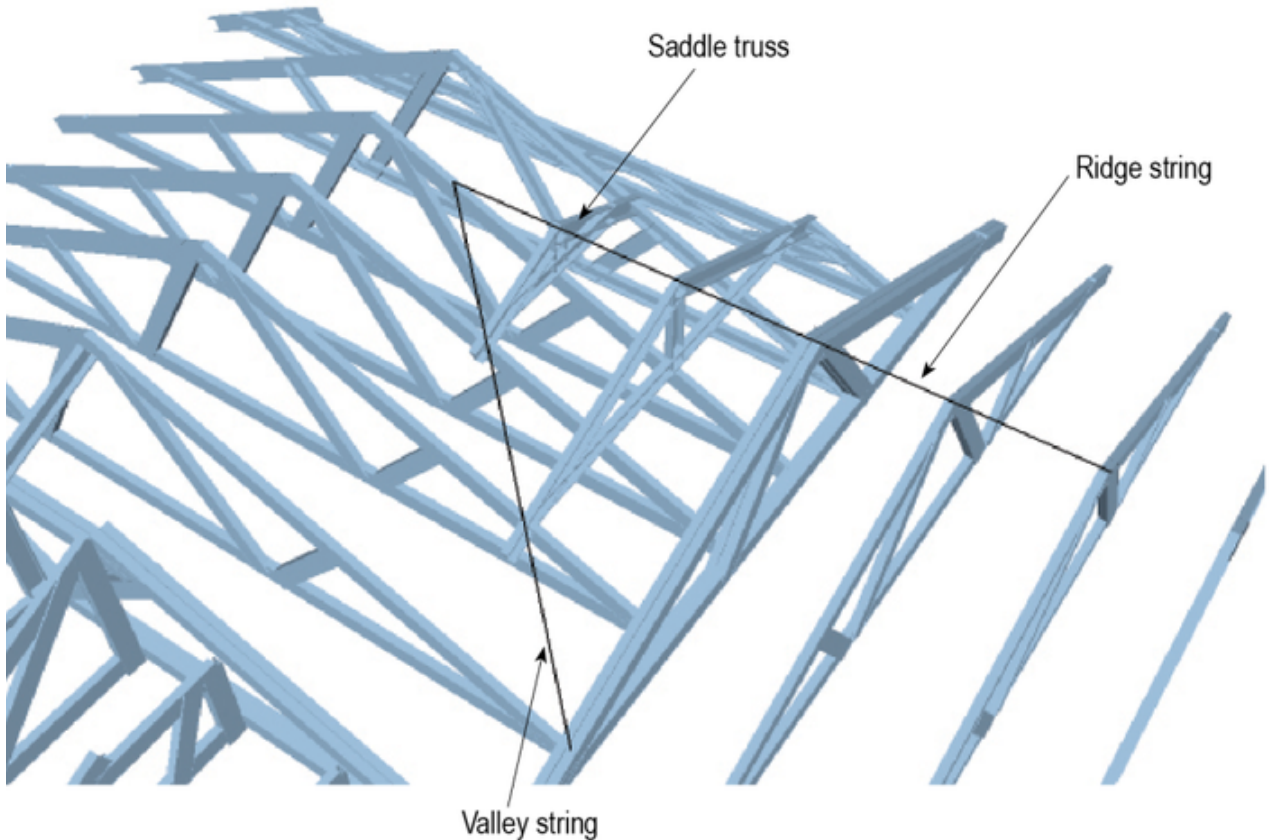

Figure 7.62: Saddle truss detail
Step 2: Fix a string line along the ridge line of your roof and down the valley lines to aid in the positioning of saddle trusses as shown in **Figure 7.62**.